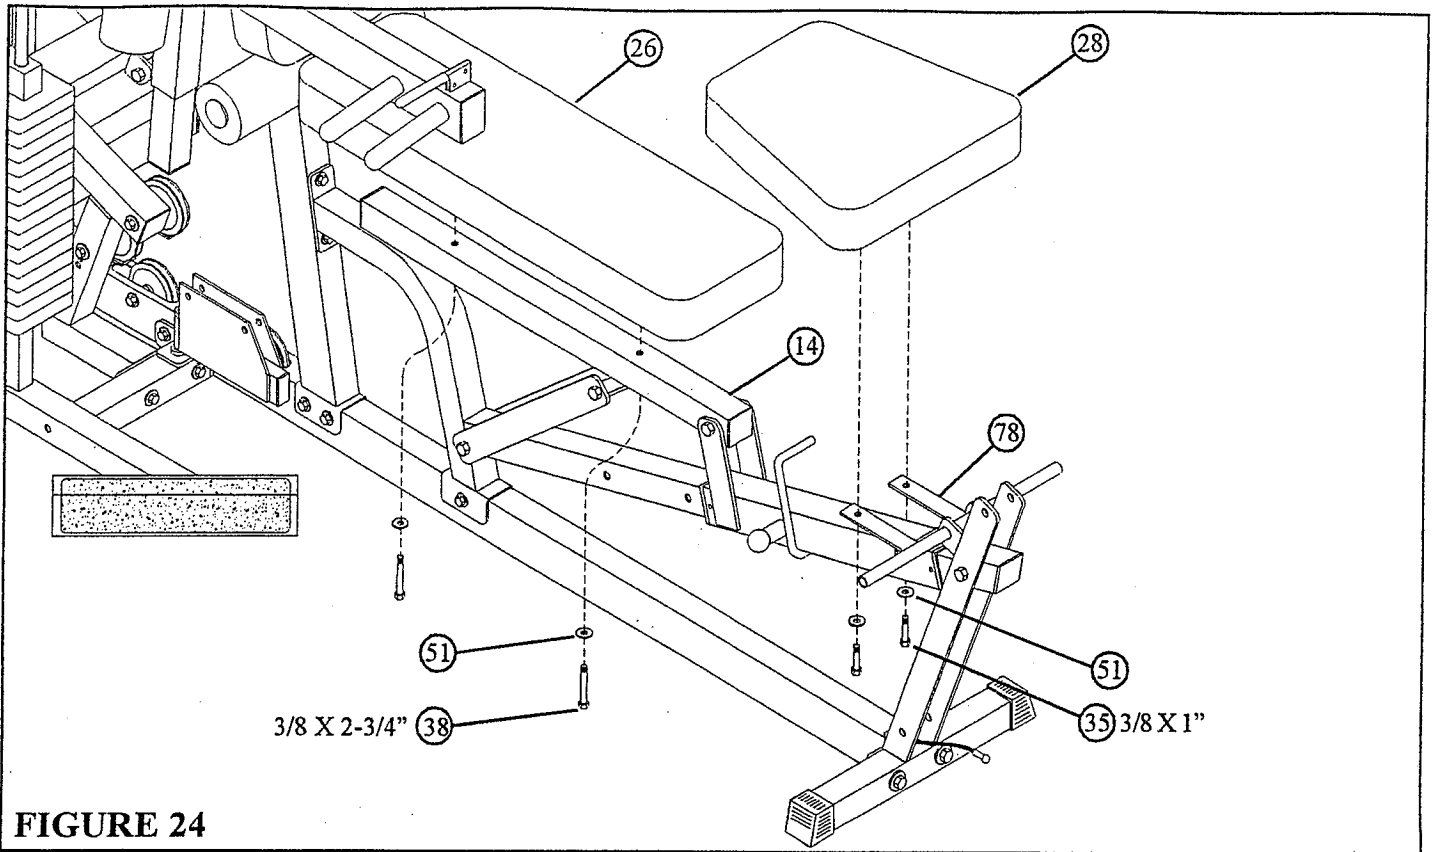

**FIGURE 23**
- Attach WOLFF SLEEVE (2) to the BACK PAD SUPPORT (14) using one 1/2 X 3-1/2" BOLT (43) and one 1/2" **LOW HEIGHT LOCKNUT** (50). (NOTE: Securely tighten, then back nut off 1/4 turn to allow the BACK PAD SUPPORT (14) to rotate freely.) See FIGURE 23.
- Attach both 2 X 16-1/2" PLATES (18) to the bushing on the BACK PAD SUPPORT (14) using one 1/2 X 5-1/2" BOLT (47) and one 1/2" **LOW HEIGHT LOCKNUT** (50). (NOTE: Securely tighten, then back nut off 1/4 turn to allow the 2 X 16-1/2" PLATES (18) to rotate freely.) See FIGURE 23.
- Slide one HINGE TAB (78) on each side of shaft on WOLFF SLEEVE (2). See FIGURE 23.
- Stick one 1-1/4" RUBBER BUMPER (85) on the BACK PAD SUPPORT (14) approximately 1/2" from the end of BACK PAD SUPPORT (14).
- At this time, **SECURELY** tighten the FRAME SUPPORT (1) to the BASE (10) and the FRONT UPRIGHT (11).